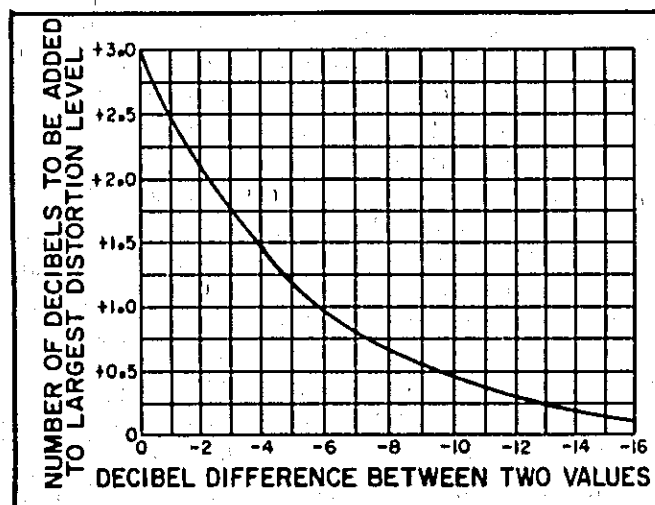

Figure 4-3. Logarithmic Addition of Harmonic Components.
g. Calculate the Total Harmonic Distortion using the graph shown in Figure 4-3. As an example-If the amplitude of the second harmonic is -110 dB and the third harmonic amplitude is -114 dB the dB difference between the two is -4 dB. Locate this number on the horizontal axis of the graph. The -4 line intersects the curve at approximately the $+1.5$ level on the vertical axis. The total harmonic distortion is therefore the amplitude of the largest harmonic (second harmonic) plus the number determined on the vertical axis (-110 dB $+1.5$ dB = -108.5 dB).